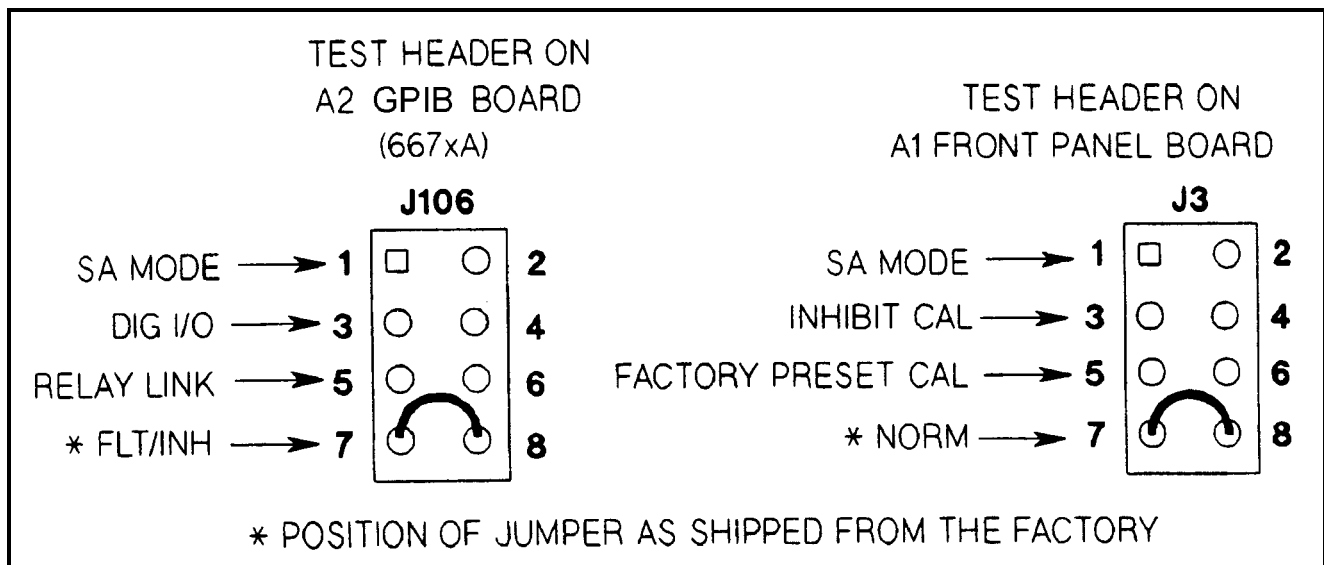

Figure 3-15. Test Header Jumper Positions
The power supply has two test headers as shown in Figure 3-15, each with a jumper that can be moved to different positions for SA testing and for other functions. To gain access to the headers, remove the power supply top cover.
2.	Connect SA jumper of connector J106 on A2 GPIB Board (see Figure 3-15).
3.	Connect SA jumper of connector J3 on A1 Front Panel Board (see Figure 3-15).
3.	Connect signature analyzer CLOCK, START, STOP, and GROUND inputs and setup as shown in Figure 3-15.
If **CAL DENIED** appears on the display when front panel calibration is attempted (or error code 1 occurs when GPIB calibration is attempted on a Systems Supply), the INHIBIT CAL jumper (see Figure 3-15) is installed. This prevents the power supply calibration from being changed. To calibrate the power supply first move this jumper from the INHIBIT CAL position to the NORM position.
| 2 | Move the jumper in test header J3 on the A1 Front Panel Board from the NORM to the FACTORY PRESET CAL position (see Figure 3-15). |
| 4 | When PWR ON INIT no longer appears, the supply's factory calibration constants have been restored and the password has been changed to 0. There is no longer any password protection. You can now turn off the supply and restore the calibration jumper to the NORM position (see Figure 3-15). |